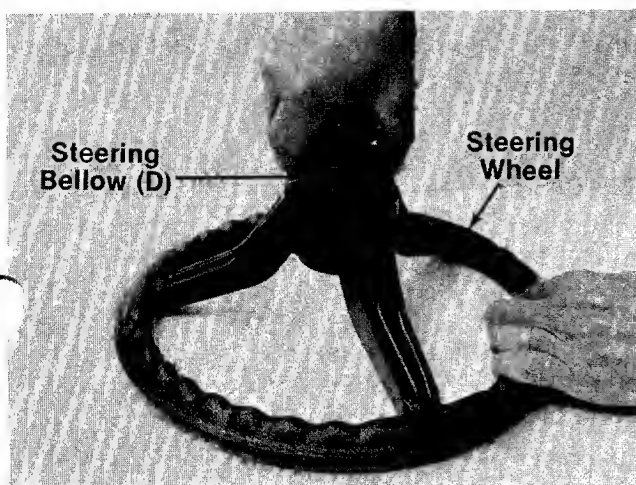

FIGURE 13.
2. Attach steering bellow (D) to the steering wheel as shown in figure 13.